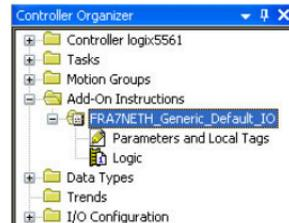

Figure 83: Generic Default IO Add-On Instruction
- Right click on “Add-On Instructions” in the controller organizer view and select “Import Add-On Instruction”. Browse and import the generic default I/O add-on instruction. Refer to Figure 83.